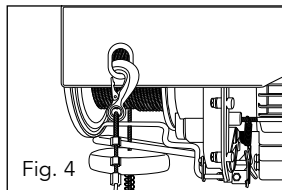

Fig. 4
2. The permanent hook (8) must be attached to the fastening hole (2) (Fig. 4).